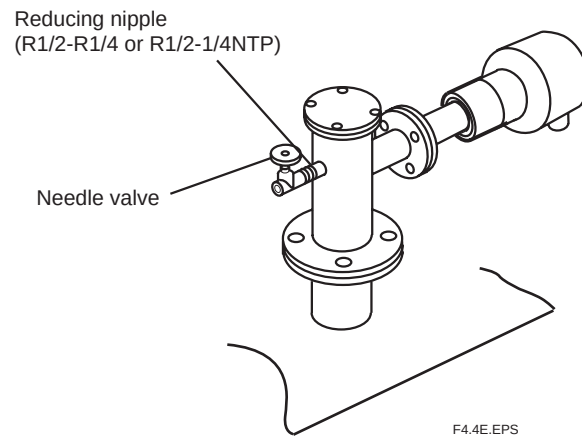

Figure 4.4 Mounting the needle valve for restricting exhaust flow of the sample gas
- When a high temperature detector is used and the pressure of a sample gas is 0.49 Pa or higher, it is recommended that a throttle (e.g., needle valve) be installed on the sample gas outlet of the high temperature probe adapter. (See Figure 4.4 in Subsection 4.1.4.)